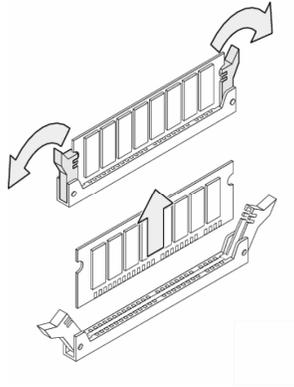

Figure A-13. Removing a DIMM Module
6. To remove a DIMM, carefully push the socket latches found on either side of the DIMM socket, then pull the DIMM out of the socket (see Figure A-13). The latches hold the DIMM tightly, so be careful not to break the socket.